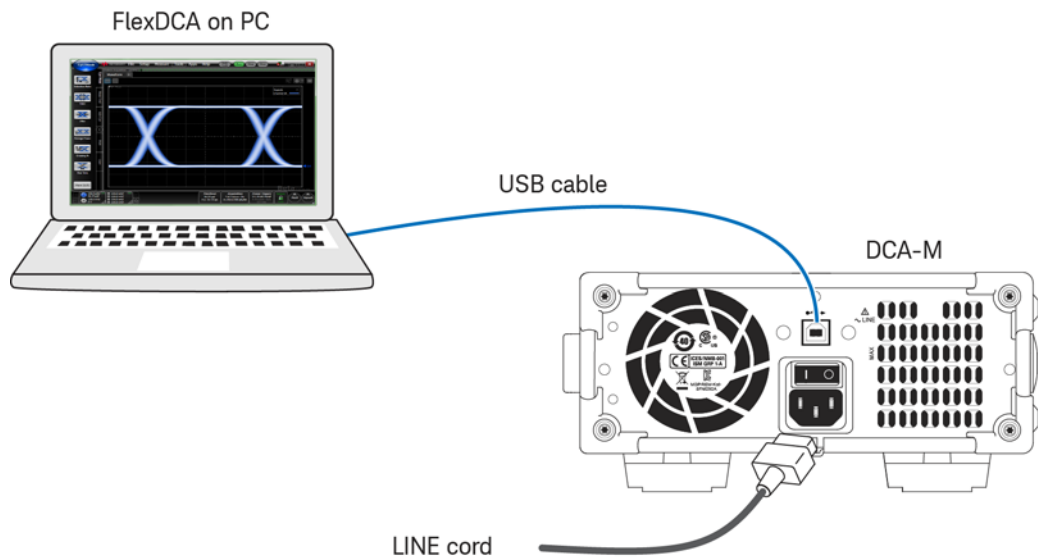

Figure 10 DCA-M Connected to PC
- 4 Use the supplied USB cable to connect the DCA-M to the PC or 86100D, depending on the setup. See Figure 10. If connecting to an 86100D, be sure to connect the USB cable to one of the 86100D's *rear-panel* USB ports.